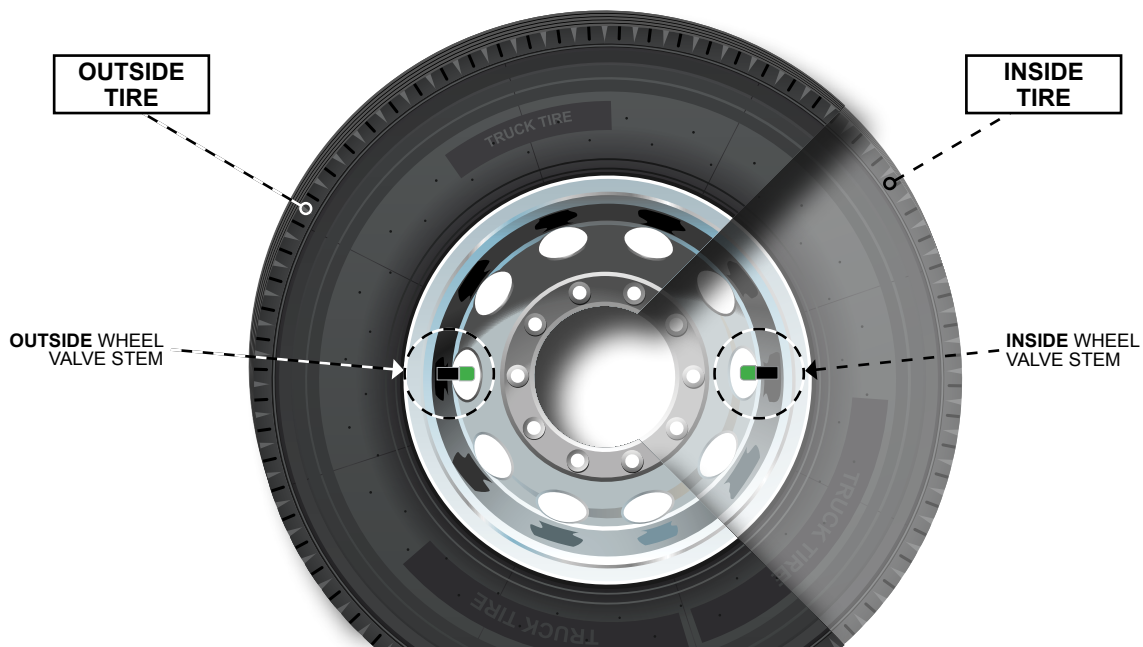

Figure 13: 180° Valve Stem Orientation.
12. Install the wheel on the vehicle per manufacturer's instructions. For dual wheel equipped vehicles valve stems must be oriented 180° from each other to allow pairing of internal sensors. See Figure 13.